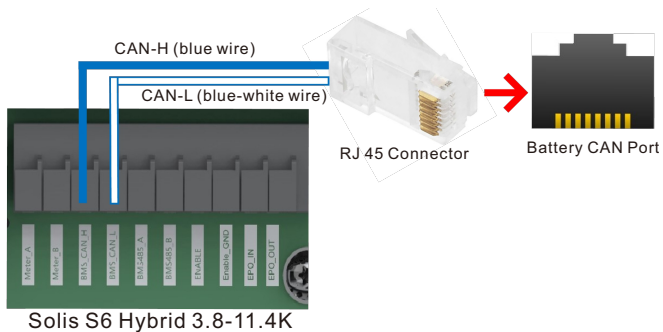

Figure 4.22 Battery CAN Communication
- RS485 Communication** (LG batteries): Run a CAT5 cable between the battery and the inverter. Split the cable at both ends and then use the diagram in Figure 4.22 to connect the four wires on both the battery and inverter ends.